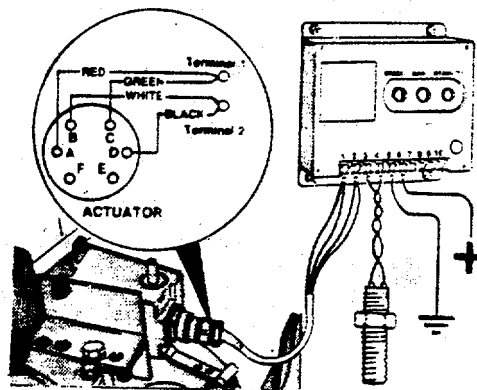

FIGURE 3-13. Wiring Connections to Governor.
- (2) Connect wiring to diesel engine governor. (FIGURE 3-13)